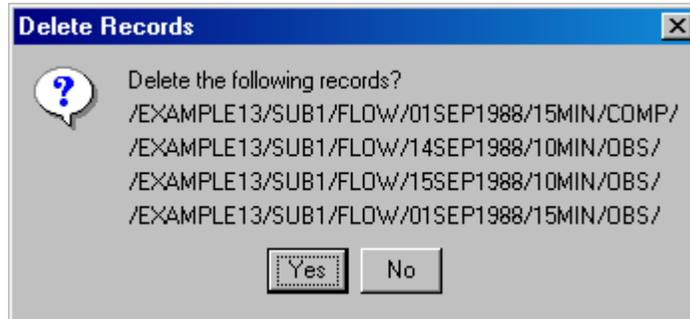

Figure E.23 Confirm List of Records to be Deleted
3. A confirmation message will appear asking you to verify the records to be deleted (Figure E.23)